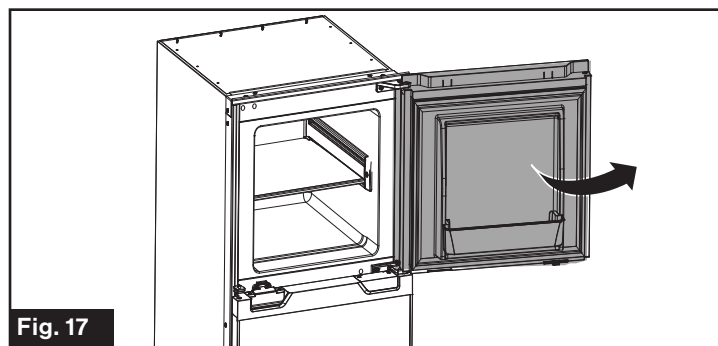

Fig. 17
1. Open the compartment door. (Fig. 17)